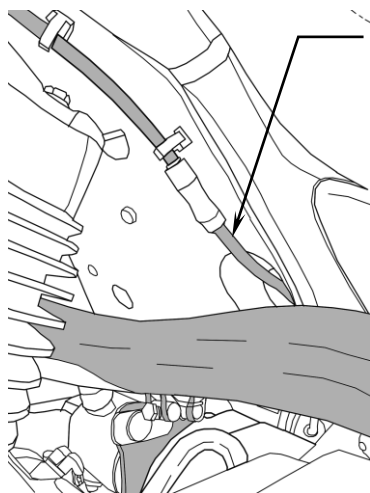

FIGURE 4.
12. If your motorcycle is equipped with a charcoal canister locate the rubber hose under the left side of the seat near the rear cylinder head. For better access remove left side cover. Disconnect the hard plastic hose from the rubber hose. Remove the plastic clip below the large hole in the frame and reroute the plastic hose behind the frame and back out through the large hole. Reconnect the plastic hose with the rubber hose, be sure the plastic hose does not chaff on the frame, see Figure 4.